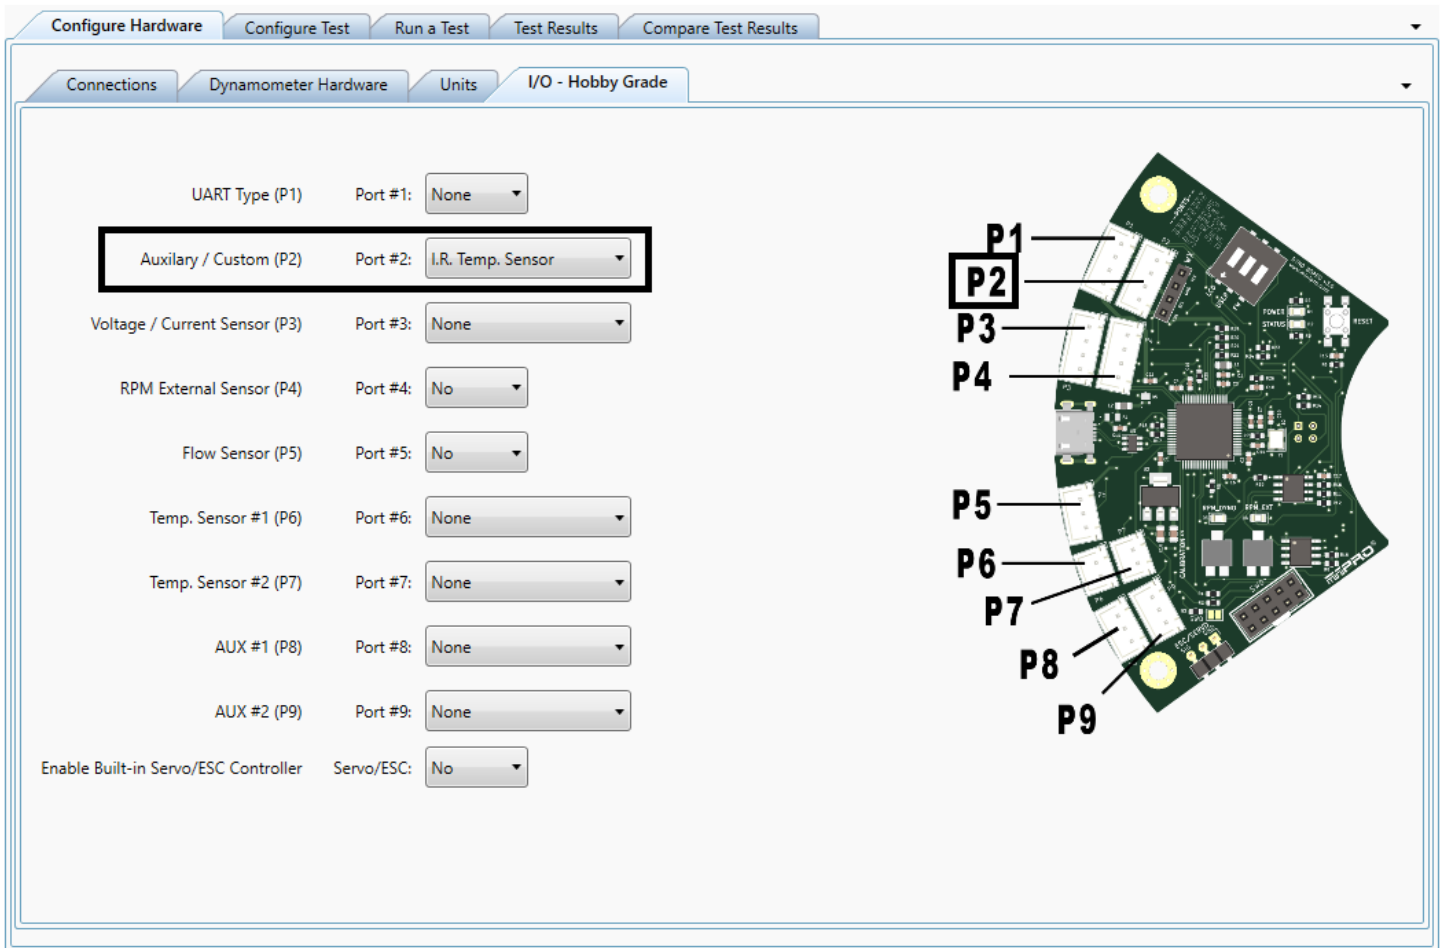

Figure 1: I.R. Sensor Configuration
1. Connect I.R. Sensor to port P2 (see Figure 1).